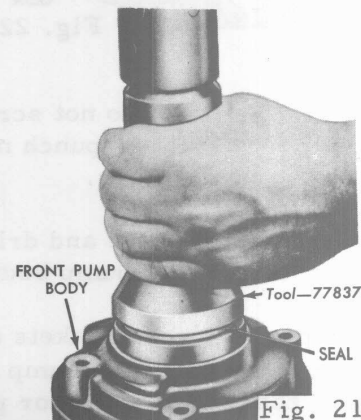

Fig. 21
- ☒ Remove the pump body from the transmission case. Coat the outer diameter of a new seal with sealing compound #3. Position the seal in the pump body. Drive the seal into the pump body until the seal is firmly seated in the body (Fig. 21).